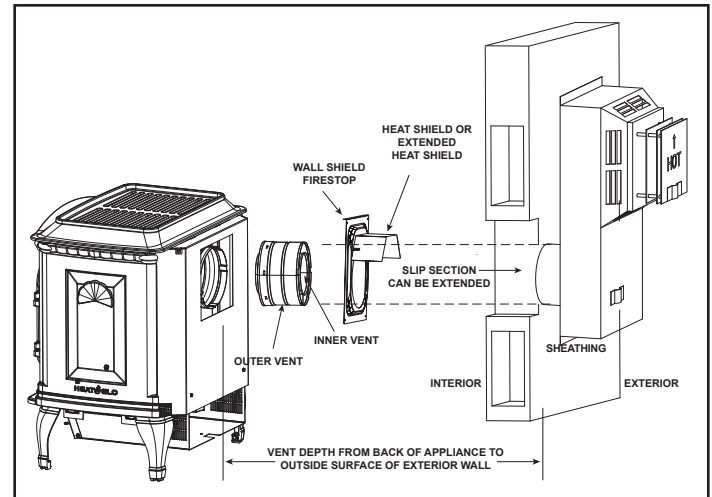

Figure 7.18 - Venting through the wall
- **DO NOT** remove the heat shields attached to the wall shield firestop and the horizontal termination cap, Figure 7.18).
There are two sections of the heat shield. One section is factory-attached to the wall shield firestop. The other section is factory-attached to the cap. See Figure 7.18.